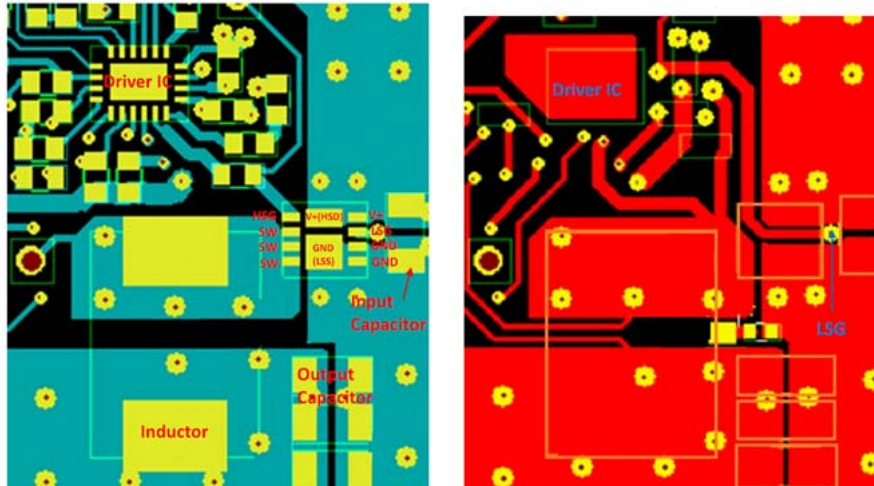

Figure 3. Top/Component (green) View and Bottom (red) PCB View
Figure 3 shows an example of a well designed layout. The discussion that follows summarizes the key features of this layout.
- "The SW to inductor copper trace is a high current path. It will also be a high noise region due to switching voltage transients. The trace should be short and wide to enable a low resistance path and to minimize the size of the noise region. Care should be taken to minimize coupling of this trace to adjacent traces. The layout in Figure 3 shows a good example of this short, wide path.
- "The Power Trench® Technology MOSFETs used in the Power Clip are effective at minimizing SW node ringing. They incorporate a proprietary design¹ that minimizes the peak overshoot ring voltage on the switch node (SW). They allow the part to operate well within the breakdown voltage limits. For most layouts, this eliminates the need to add an external snubber circuit. If the designer chooses to use an RC snubber, it should be placed close to the part between the SW pins and GND / GND (LSS) PAD to dampen the high frequency ringing.
- "The Power Clip has very good Junction-PCB heat transfer from all power pins. It has much better heat transfer Junction-GND (LSS) than traditional dual FET packages. In most cases, board ground will be the most effective heat transfer path on the PCB. Use a large copper area between GND / GND(LSS) PAD pins and board ground. To ensure the best thermal and electrical connection to ground, we recommend using multiple vias to interconnect ground plane layers as shown in Figure 3.